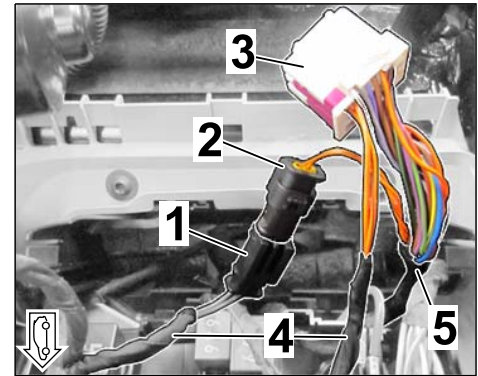

Figure 30
2.5.5 Change pin assignment of lines OG/BN / OG/BK in the connector (17-pin, white) as follows (⇒ *Figure 30*):
- 3 (2) – Connector (17-pin, white)
- 4 (3) – Wire harness for engine noise control unit/pulse sender